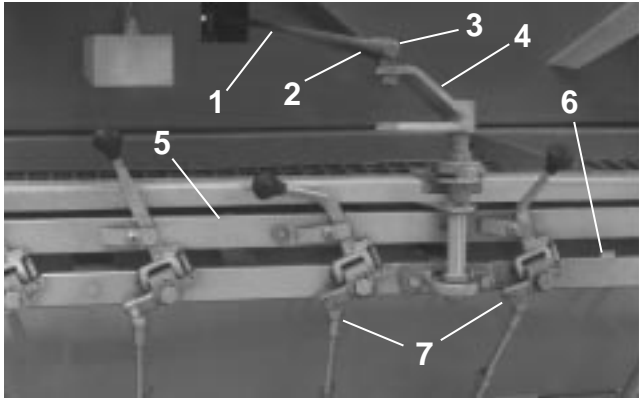

Figure 3 Hopper
6. Attach the hopper reach rod (see Figure 3).